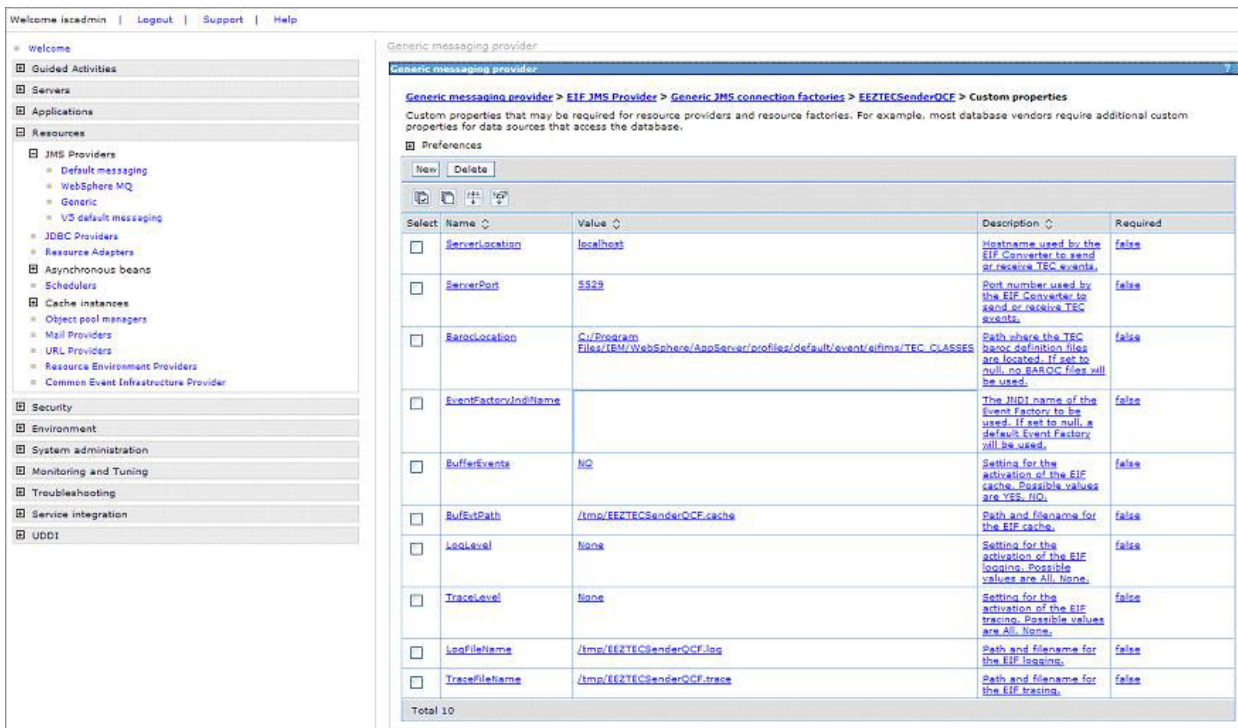

Figure 7. Custom properties panel
- a. In the administrative console, click **Resources --> JMS Providers --> Generic --> EIF JMS Provider --> JMS connection factories --> EEZTECSenderQCF --> Custom properties** (see Figure 7).